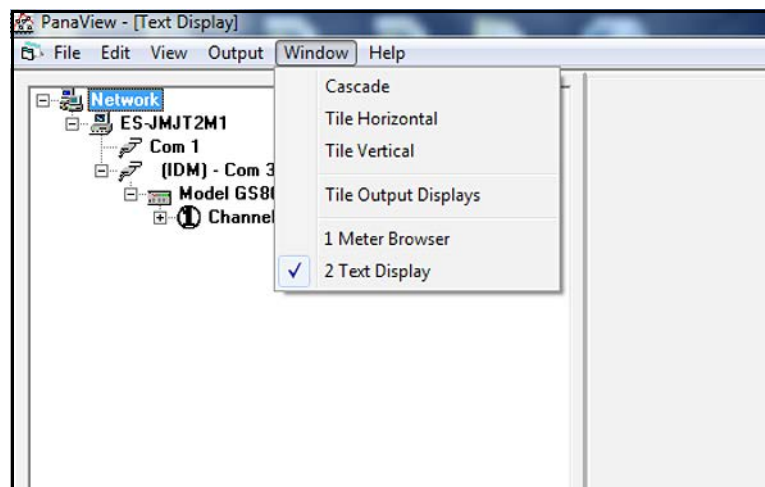
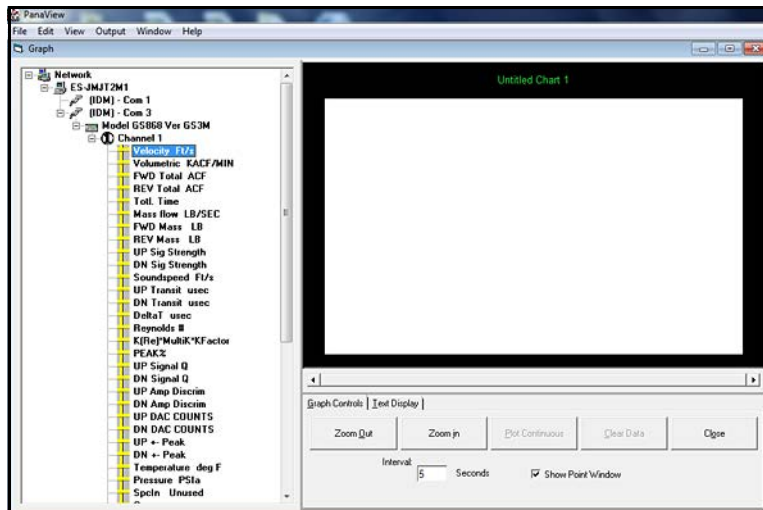

Figure 49: The Window Menu
Figure 53: The Graph Window
4. To rearrange the two open windows, open the “Window” menu (see *Figure 49 below*).
Note: After resizing or removing any of the multiple text screens, the default tiled layout may be restored by opening the "Window" menu (see Figure 49 on page 36) and clicking on the "Tile Output Displays" option.
3. Arrange the multiple "Text Display" windows as desired via the "Window" menu (see Figure 49 on page 36).
3. Using the "Window" menu, as shown in Figure 49 on page 36, arrange the open windows in the desired format. Figure 53 below shows the "Graph" window in its maximized (full-screen) size.
The “Graph” window shown in Figure 53 on page 41 has three panes:
- After you have finished creating the desired graphs, click the **[Close]** button in the lower right pane of the "Graph" window (see Figure 53 on page 41).